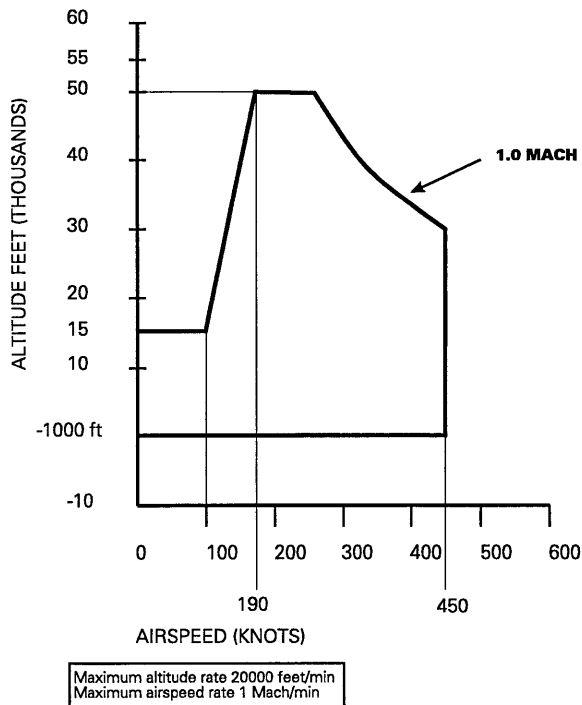

Fig 6-3 ARINC 565 OPERATING LIMITS
- **ARINC LIMITS (Figure 6-3)**
ARINC 565 operating limits are enabled by setting ARINC LIMITS ON and implemented as shown in Fig. 6-3.